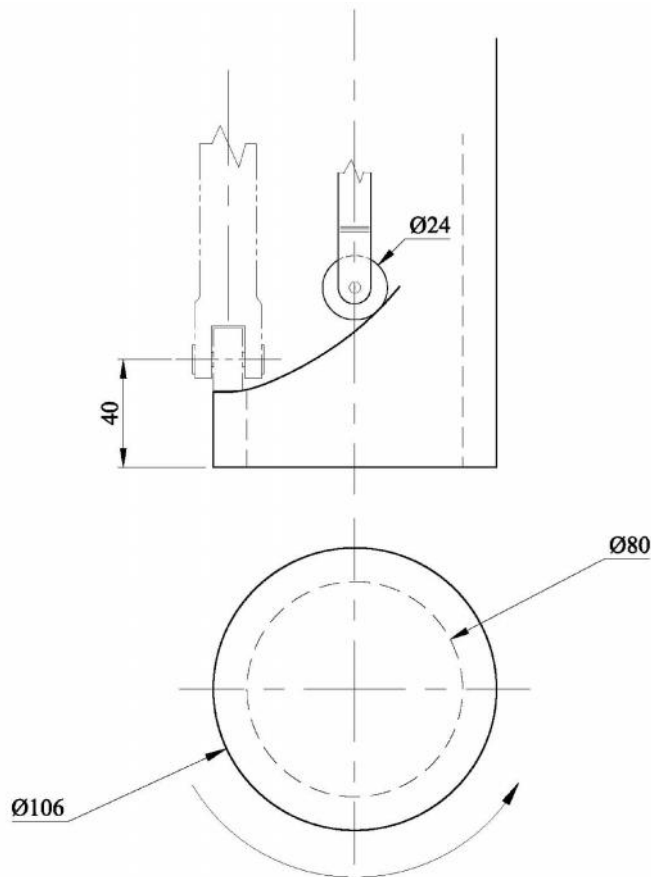

Figure 1
- a) Draw the incomplete elevation and plan of the end cam shown in Figure 1.